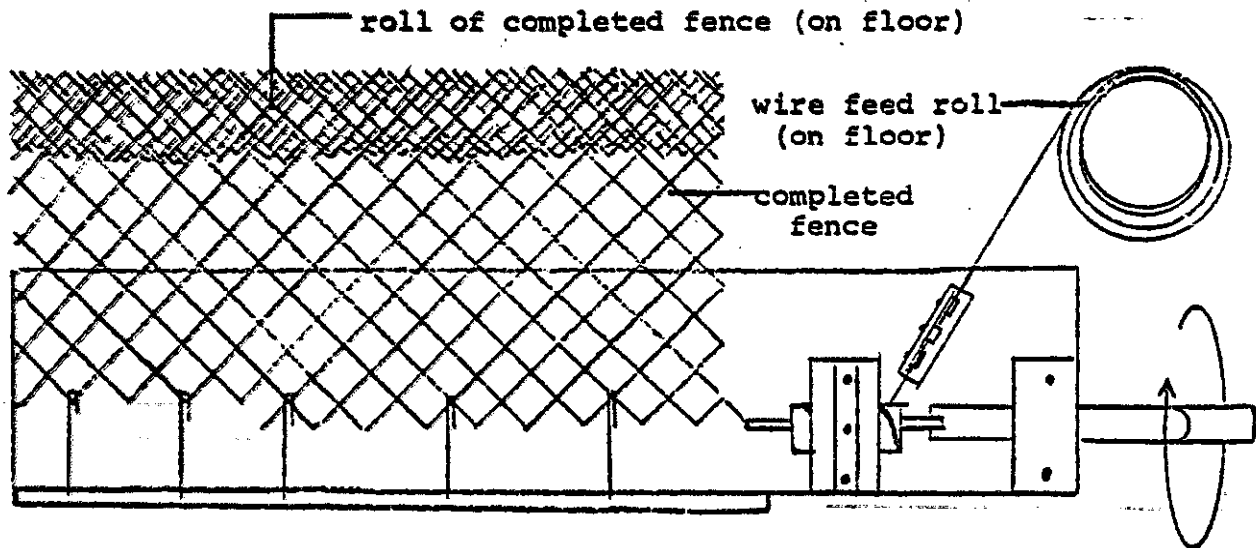

FIGURE 17
2. Figure 17: Clockwise rotation of crankshaft handle will produce properly formed wire at output end of bending head; continue rotating crankshaft handle until formed wire is of sufficient length for desired fence height.
3. Figure 17: Cut wire and rotate handle so that a second strand is formed which will interlock with first strand.
4. Figure 17: Continue the above procedure until fence length reaches end of machine-bed; hook hooks (11) to last formed strand to support fence and continue as above. As each strand is completed, move hooks to that strand.